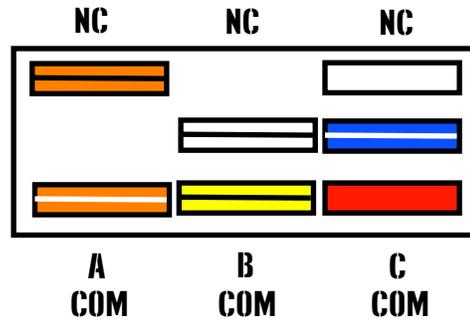

Figure 7.9
- In A-Com, power is supplied to the PTO switch from the A1 terminal of the ignition switch through a red wire. When the PTO switch is turned on this completes the circuit to allow power to go to the PTO clutch. It is a normally opened (N.O.) set of contacts. See Figure 7.9.